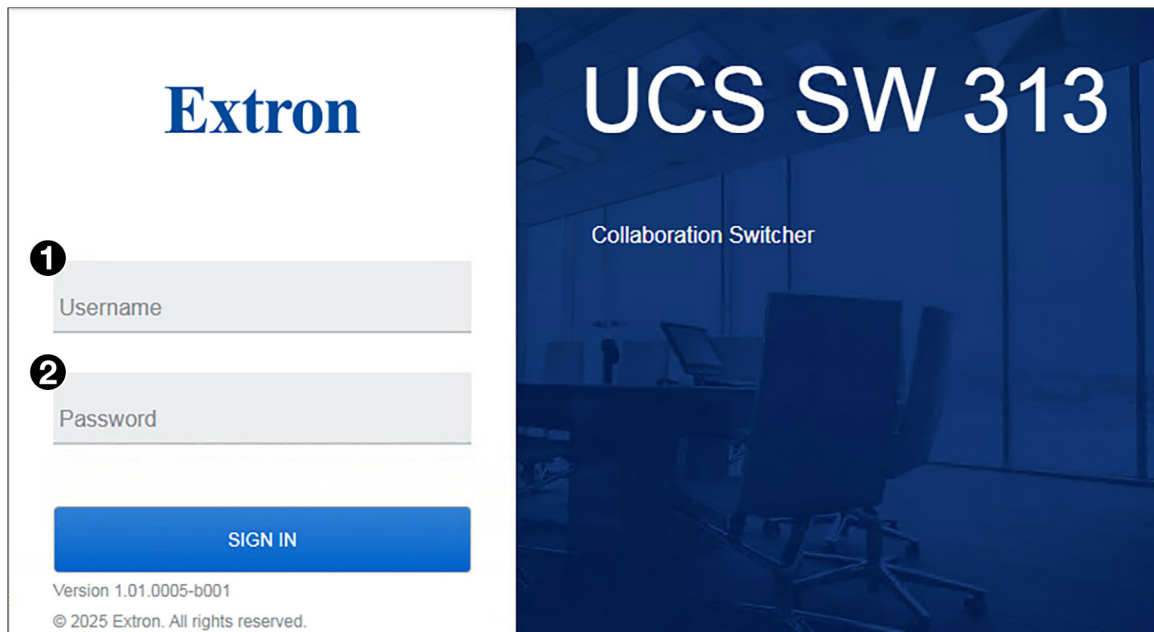

Figure 28. Web Page Sign-in Screen
3. On the sign-in screen, enter your user name in the **Username** field (see figure 28, **1**). The default name is **Admin**.